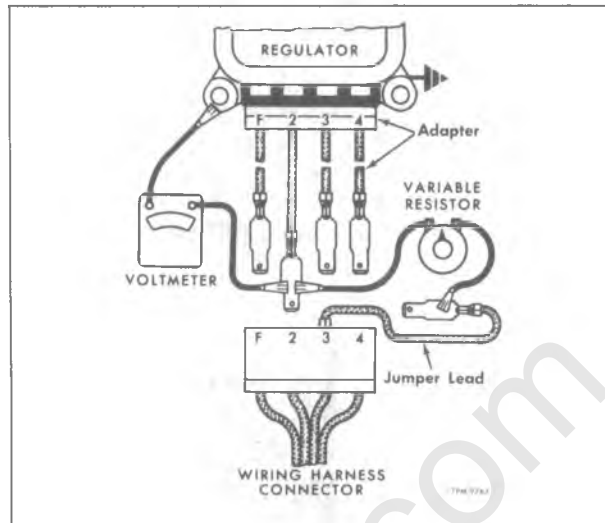

Figure 13—Testing Field Relay Closing Voltage (Two-Unit Type Regulator) (Typical)
NOTE: Refer to figure 13 for test connections.
a. Connect a 100-150 ohm variable resistor and a voltmeter to adapter as shown in figure 13.